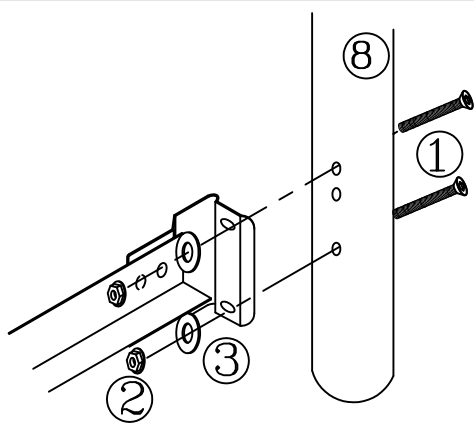

FIGURE 3
- Place 2 screws (1) through holes located in leg (8). (See Figure 3)
- Place a flat washer (3) first and then a nut (2) on each screw. Hand-tighten, DO NOT TIGHTEN screws all the way.
- Tighten all screws securely using the Allen wrench (5).